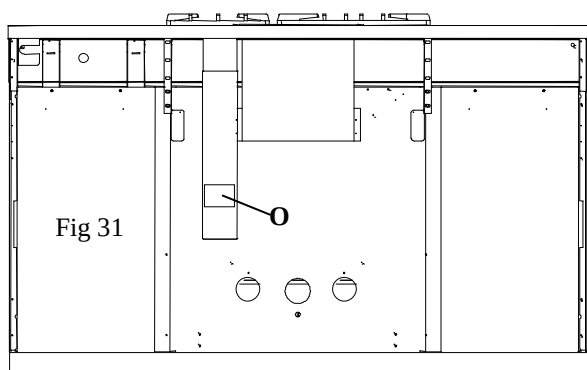
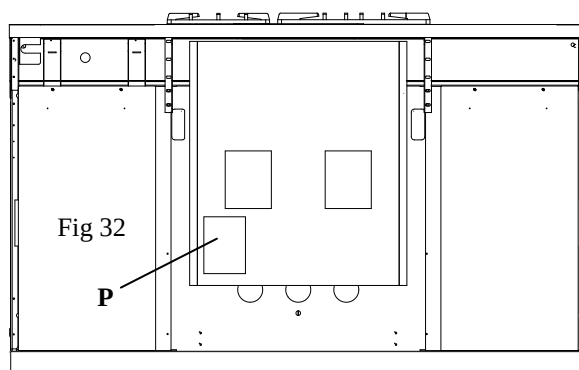

Fig 31
Fig 32
- Remove access door **O** (Figure 31, gas oven range) or **P** (Figures 32 and 33, gas and electric range).